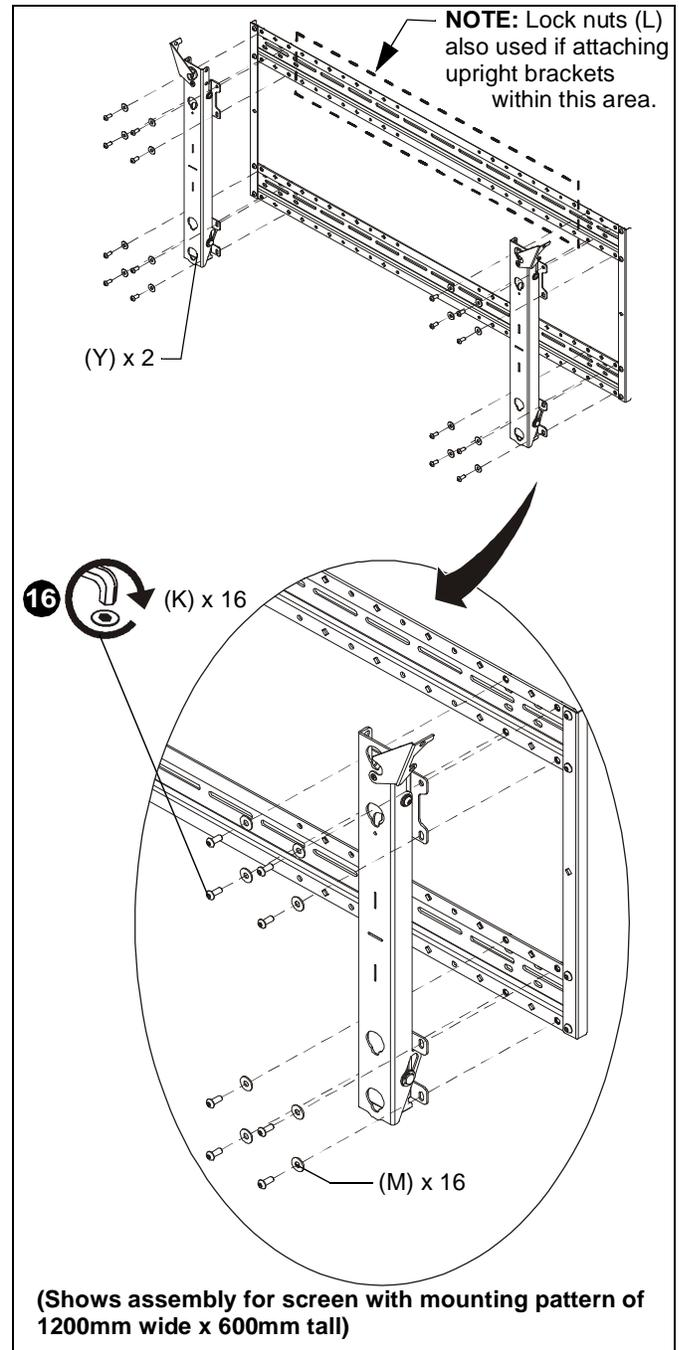

Figure 6
16. Attach two upright brackets (Y) to wall plate assembly using eight 5/16 x 3/4" button head screws (K) and 5/16" washers (M) per upright bracket. (See Figure 6)
**IMPORTANT !** : If attaching upright brackets to a screen with a mounting pattern **OTHER THAN** 1200mm wide x 600mm tall, also use the 5/16" lock nut (L) in addition to the button head screws (K) and washers (M).